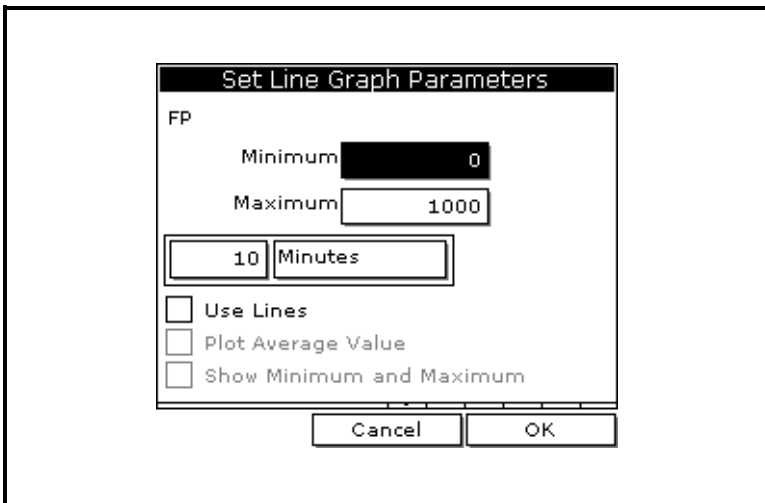

Figure 3-4: The Line Graph Parameters Window
- Use the arrow keys to scroll to **Limits** and press [ENTER]. A screen similar to Figure 3-4 below appears